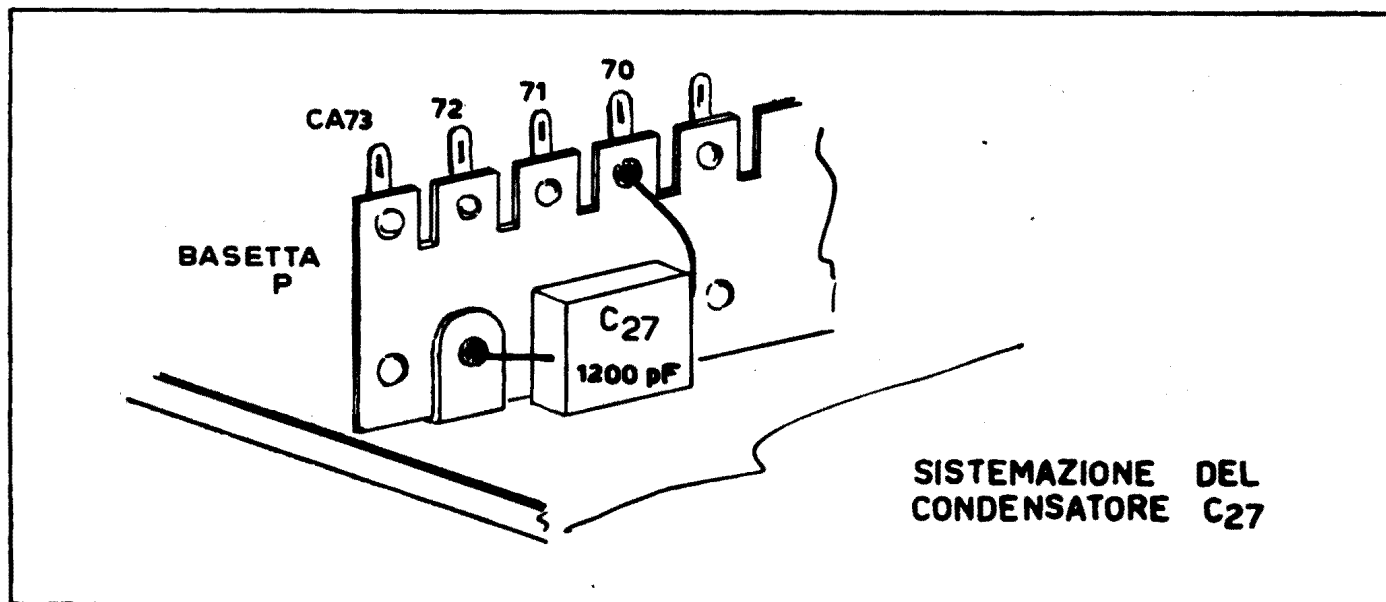

Fig. 8
b) - COLLEghi IL CONDENSATORE C27 (1200 pF - 1 kVp) FRA LA MASSA E L'OCCHIELLO DEL CA70 (P), SENZA SALDARE IN QUEST'ULTIMO PUNTO (fig. 8).